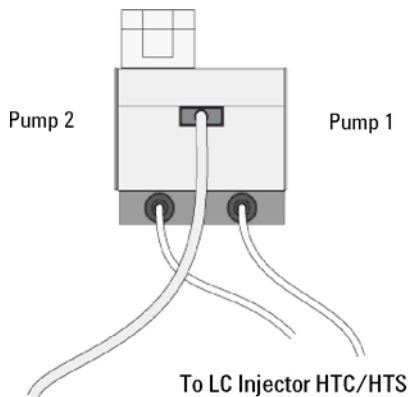

Figure 19 Electrical Connections at the Pump Holder Bracket
- 7 Insert the cable provided into the middle socket, between the other two sockets on the PCB. For details see Figure 19 on page 70.